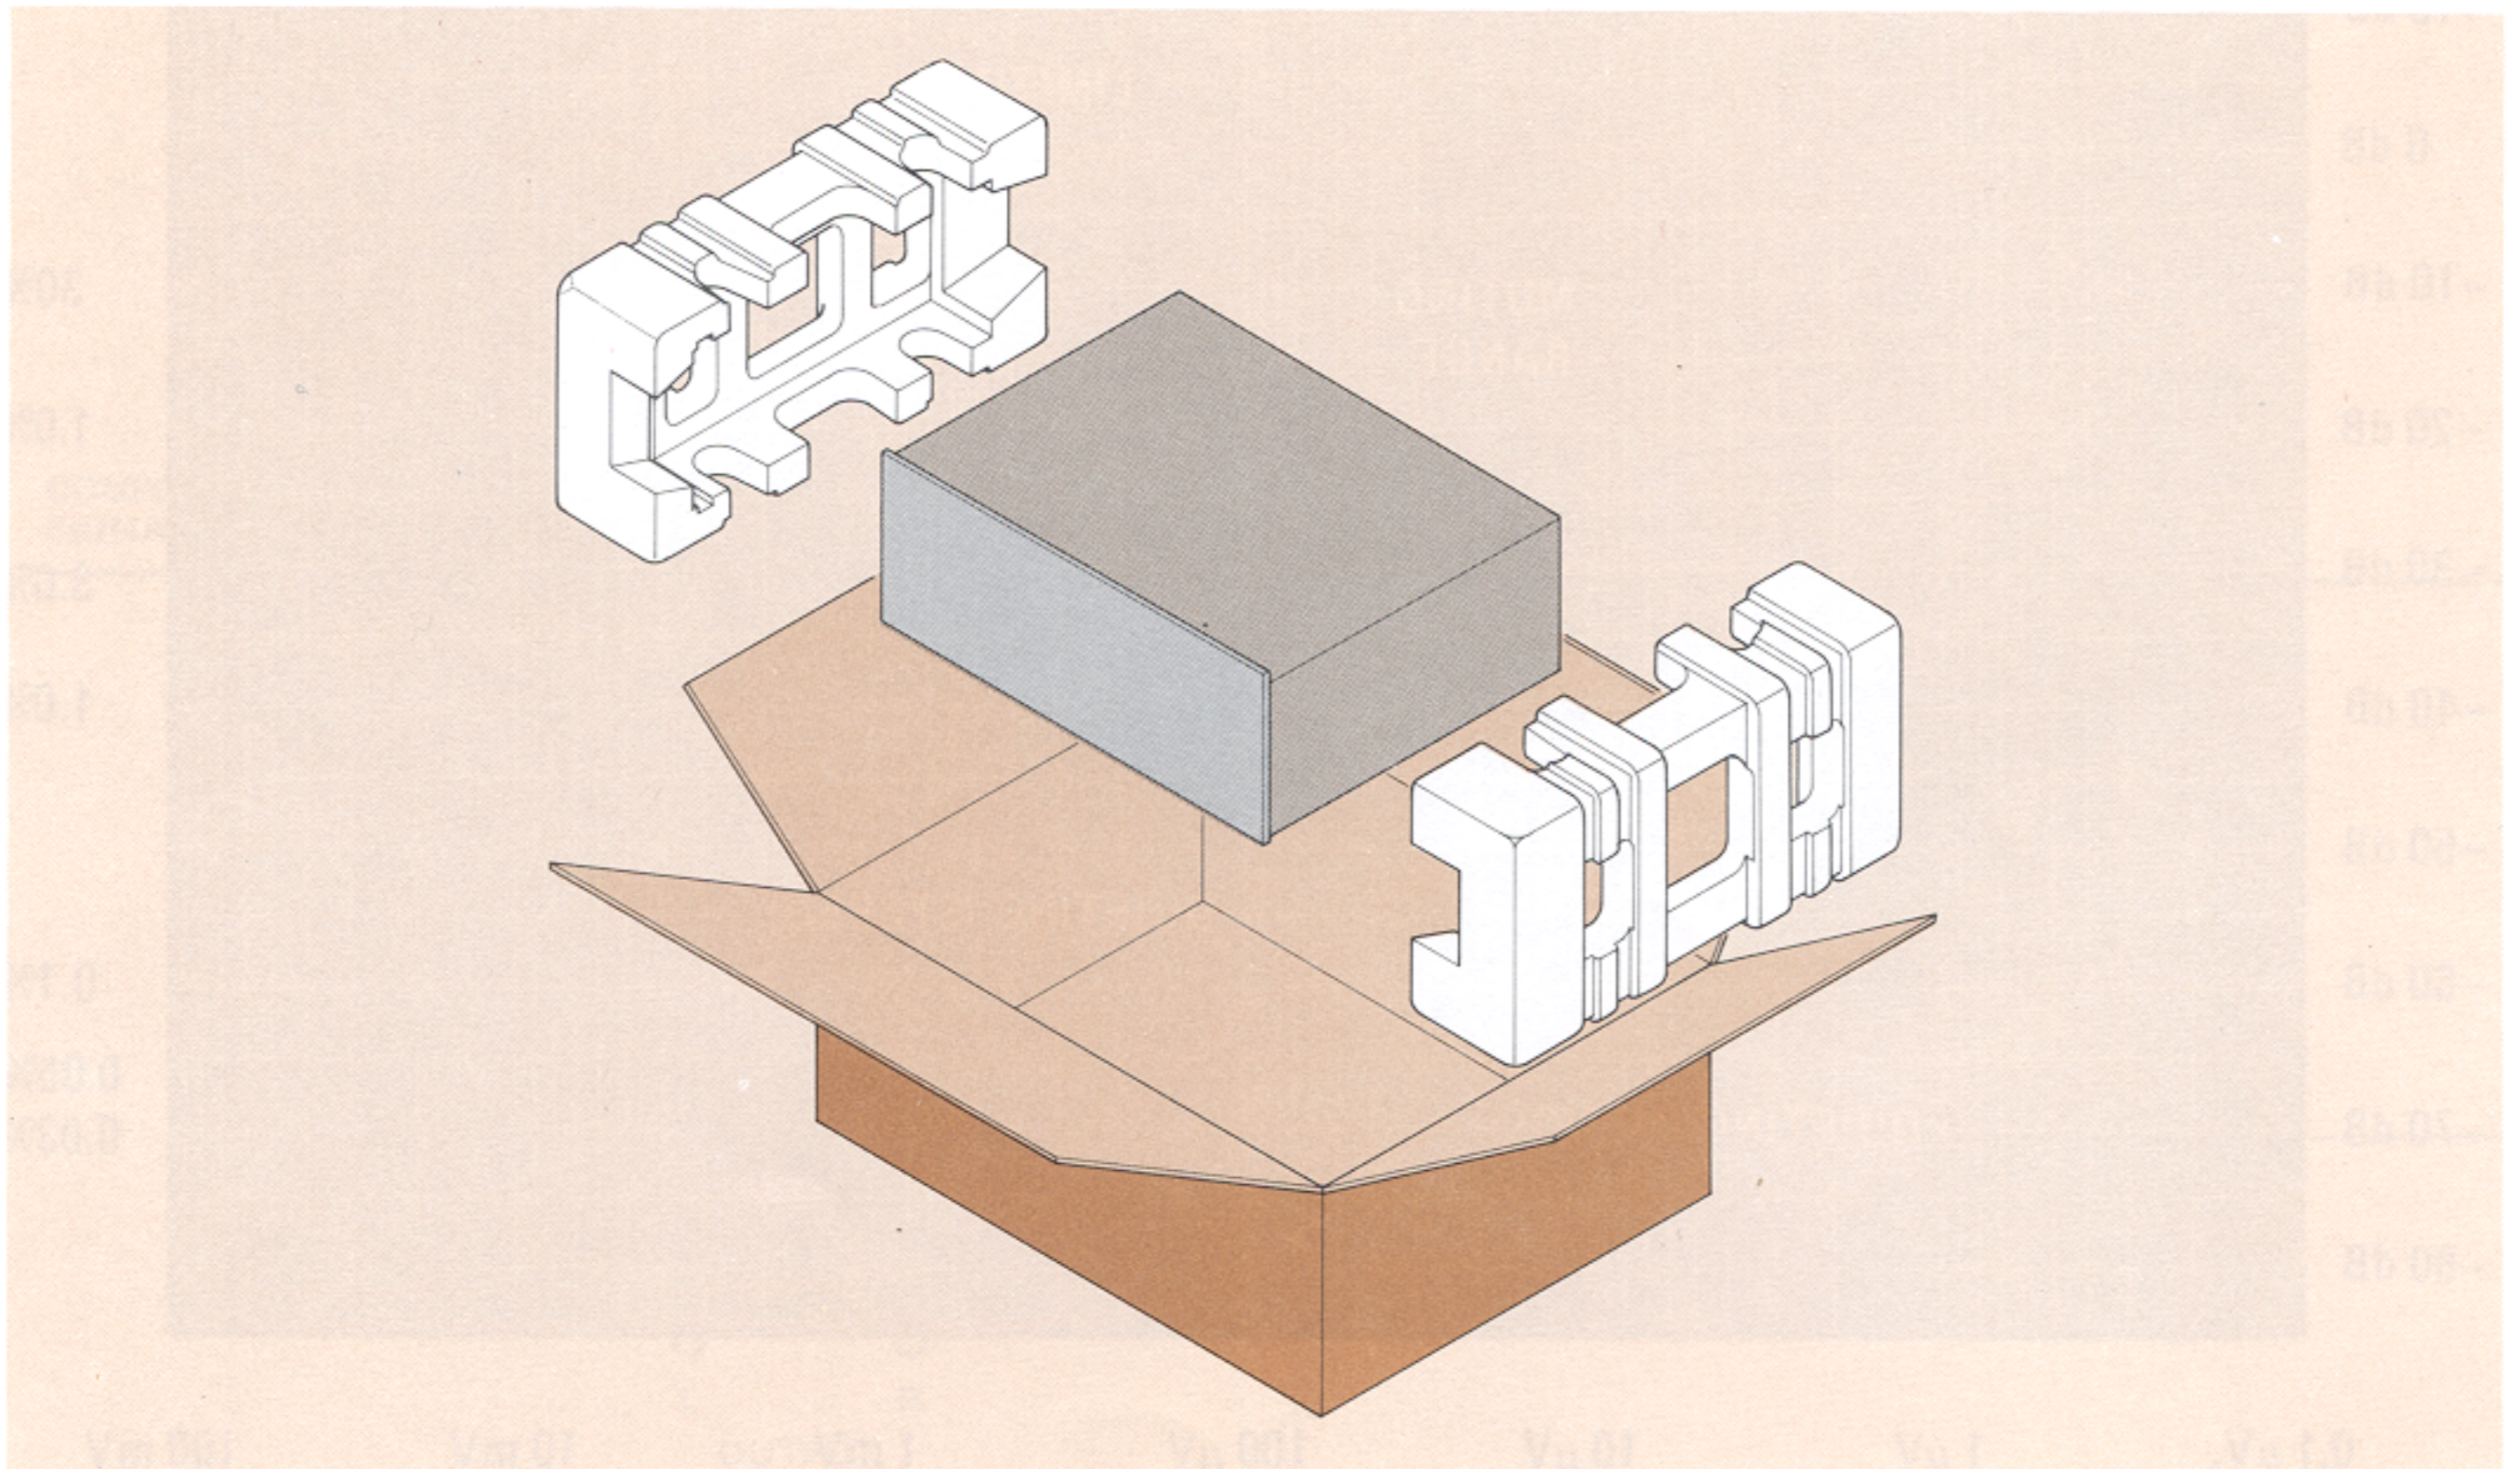

Figure 17. Repacking Illustration
- b. Pack the unit carefully, using the original material as shown in Figure 17.